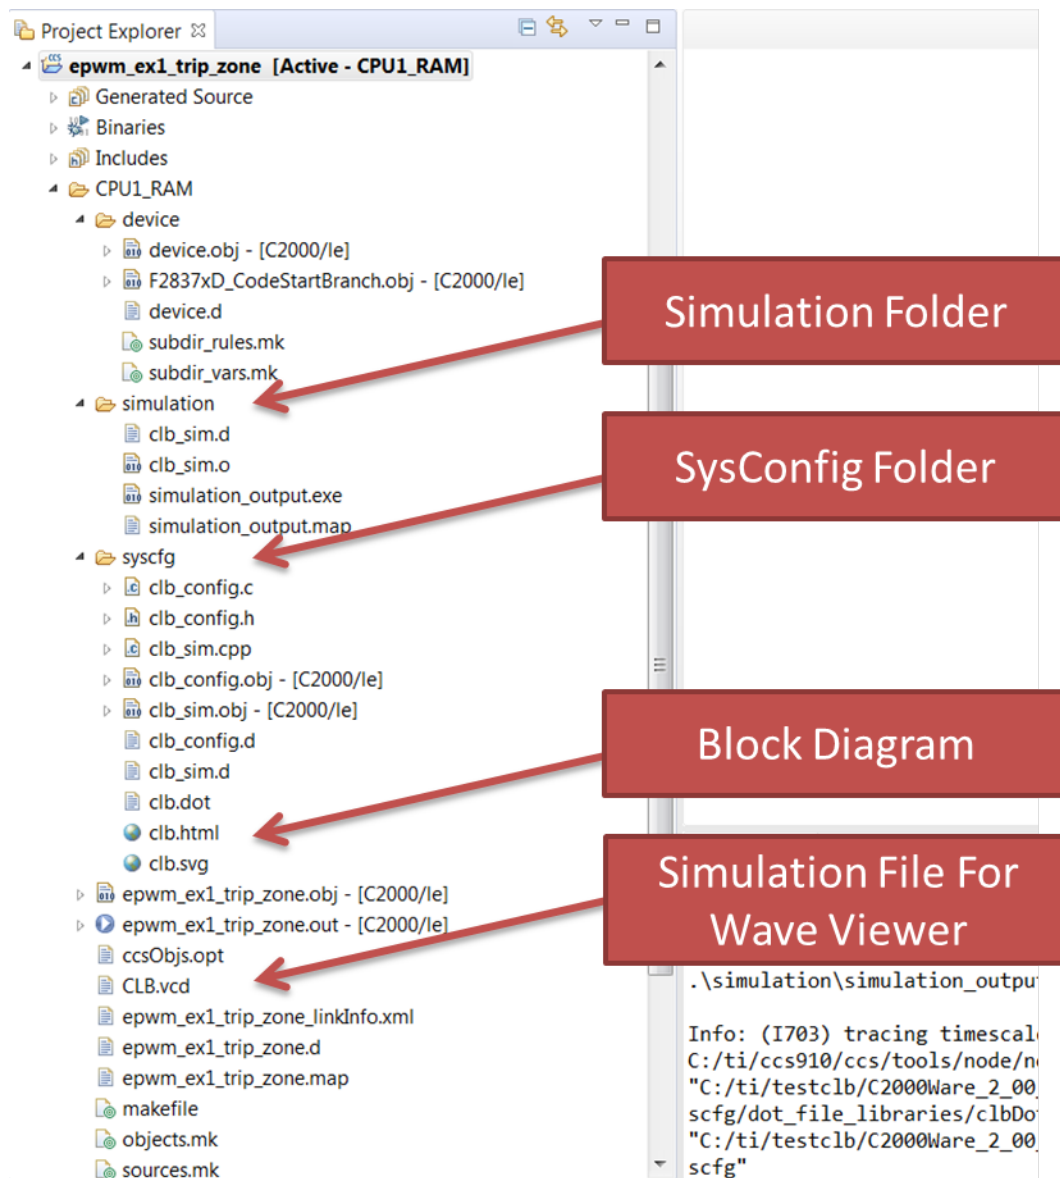

Figure 37. epwm_ex1_trip_zone With CLB Tool Support
9. After building the project, the content generated by the CLB Tool will be present in the "Build Directory". Figure 37 shows an example of this after adding CLB support to the epwm_ex1_trip_zone driverlib example.